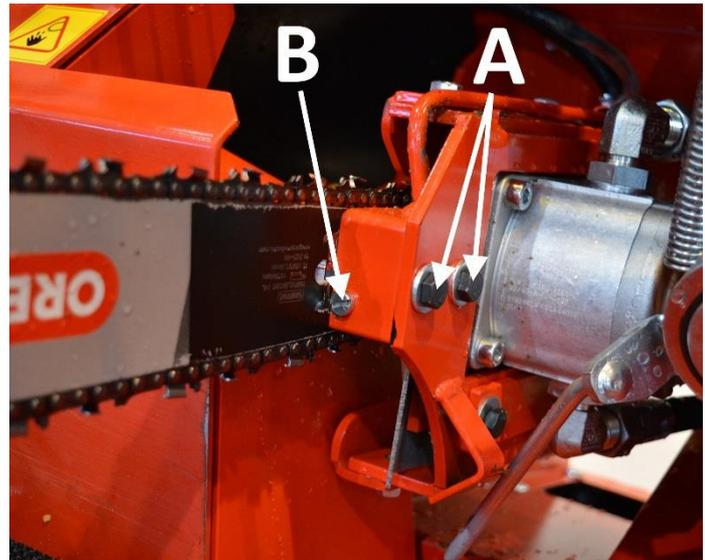

Figure 27b.
10. Fine-tune the tension of the saw chain by loosening bolts A (Figure 27b) and turning adjustment screw B in the open or close direction to loosen or tension the chain. A new chain might stretch considerably during first hours of use.. In this case, you may have to tension the chain manually.